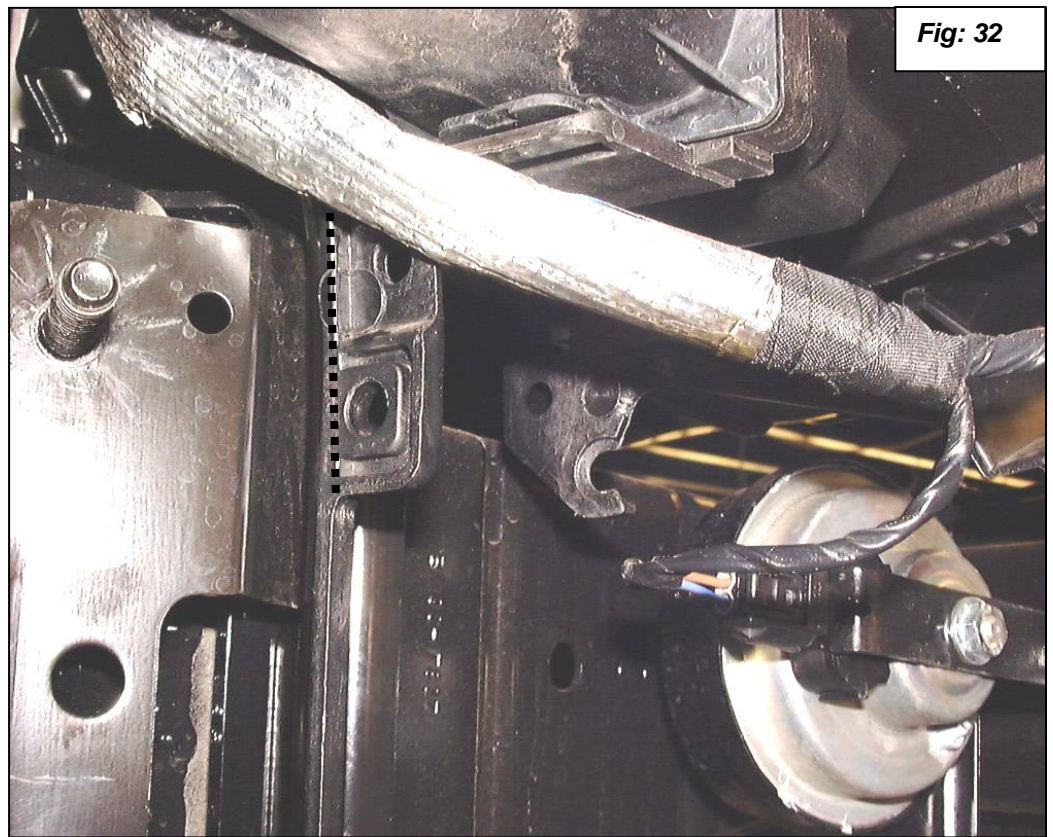

Fig: 32
23. Cut off the plastic mounting tab. You will need the space for clearance for the oil cooler line. See figures 32 and 33.